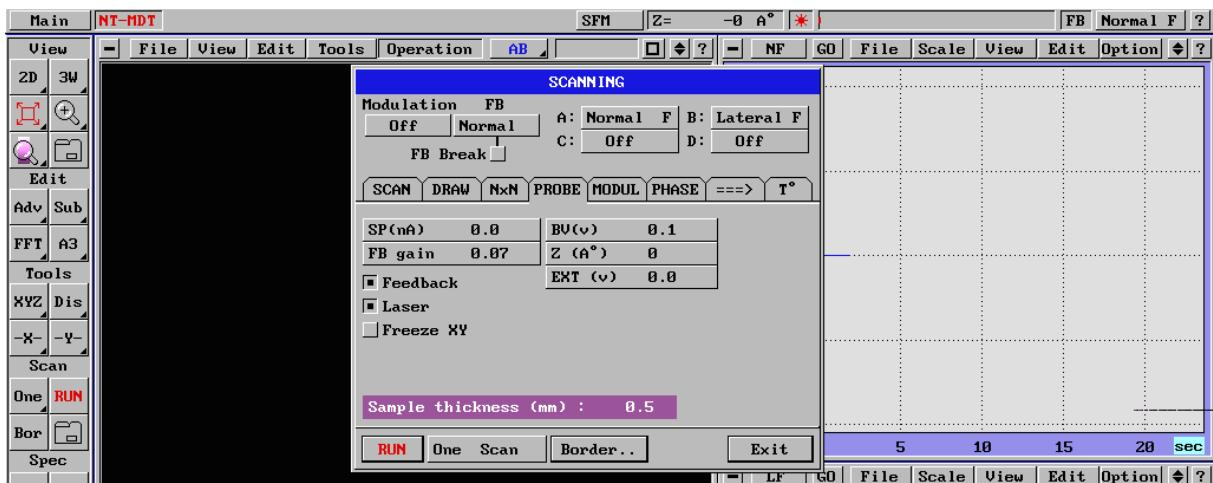

Fig. 183
- SP = 0 (Fig. 183)
- FB Gain = 0.03-0.1 (Fig. 183)